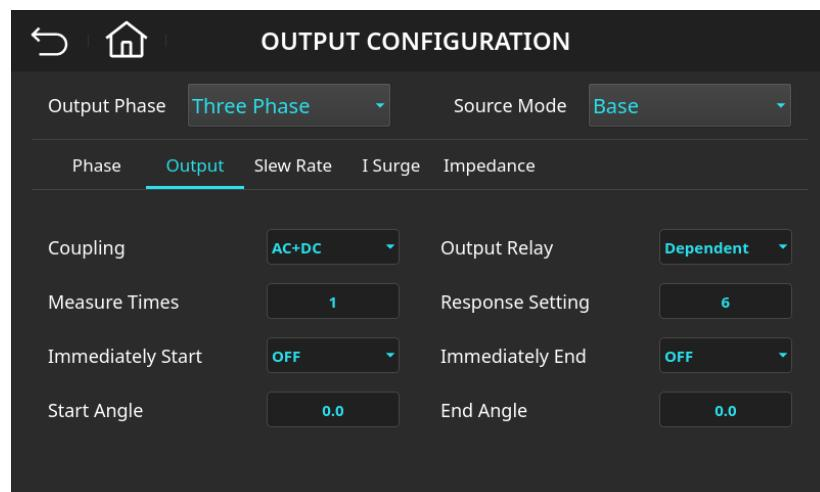

Figure 4-39: Output Configuration (Output) Page – Response Setting Set to 6
3. Enter **6** and press the **Enter** key. The value will change to “6”, as shown in Figure 4-39.